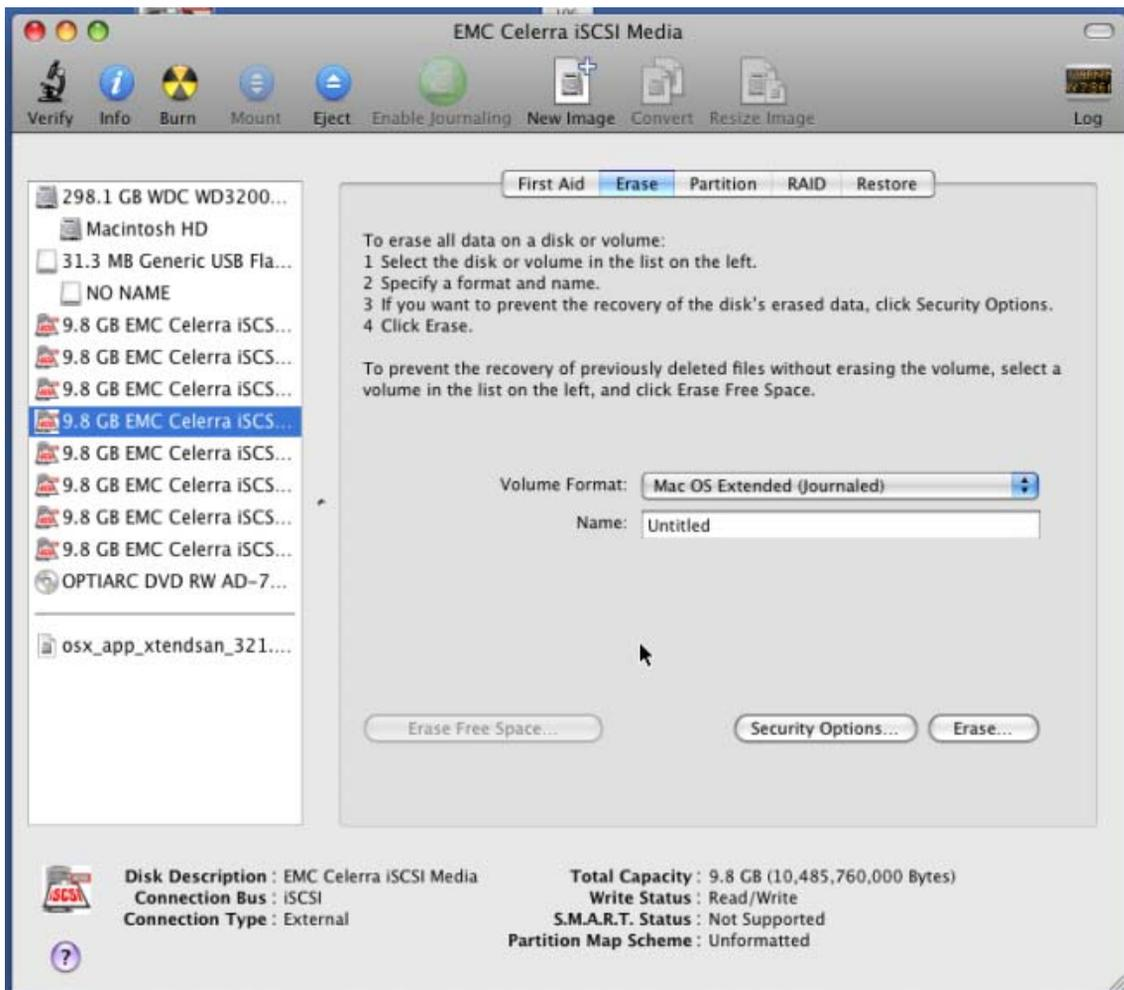

Figure 23 EMC Celerra iSCSI Media dialog box
15. The EMC Celerra iSCSI Media dialog box displays, as shown in Figure 23.